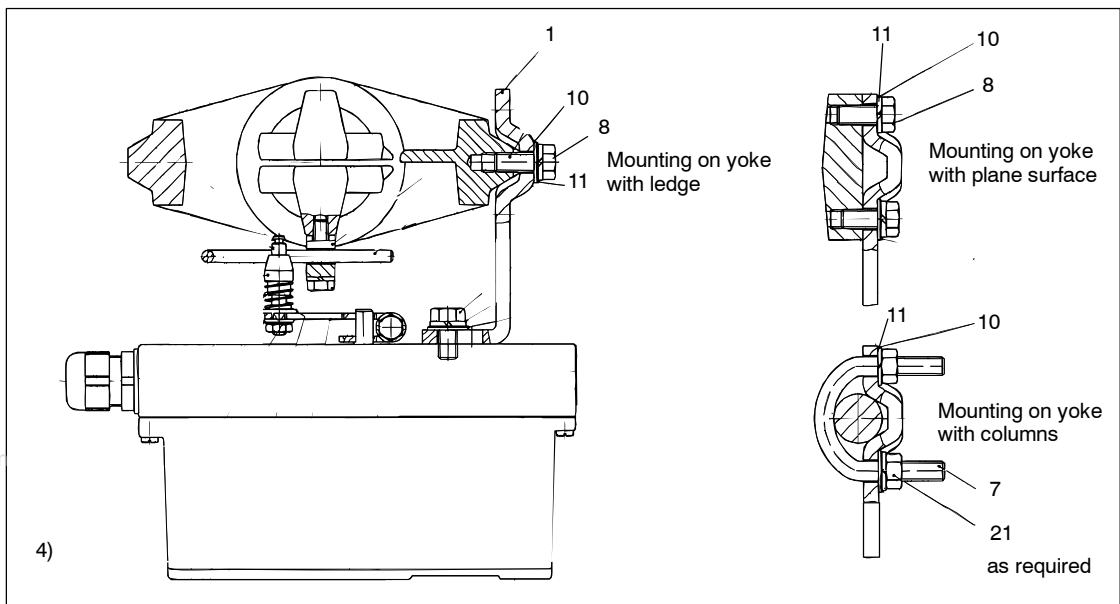

Figure 3-6 Assembly procedure (linear actuator) *continued*
The scope of delivery of the mounting kit" linear actuator IEC 534 (3 mm to 35 mm)" are contained (ser. no. see figure 3-6, page 41):
3.3.4 Assembly procedure (see figure 3-6, page 41)